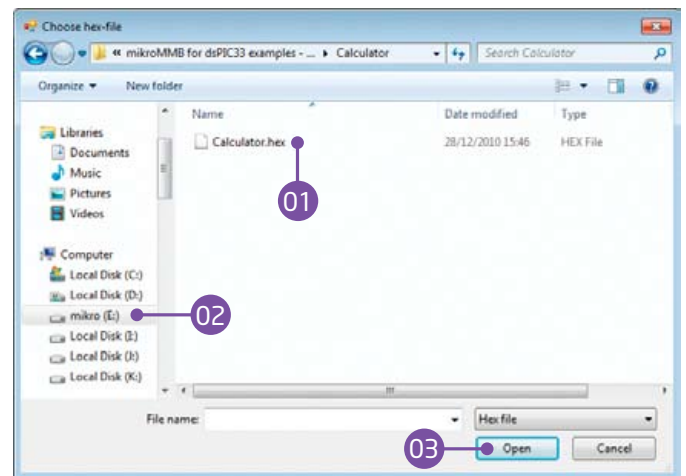

Figure 3-7: Pop-up window for .HEX file choosing
- 01 Click on **Browse button** and from pop-up window (figure 3-7) select .HEX file which will be uploaded to MCU memory